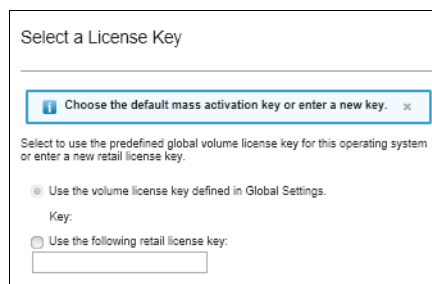

Figure 6-25 License key activation
8. The License Key activation screen appears, as shown in Figure 6-25. Select the license type as follows: